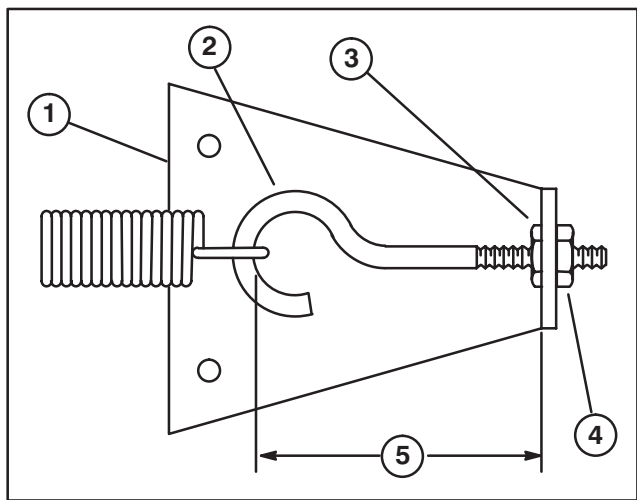

Figure 62
ADJUSTING TRACTION LINKAGE (Fig. 62)
4. Rotate, clockwise, until distance between inside of eye bolt loop and inside of spring anchor plate is shortened 1/8", as shown in Figure 62. Tighten hex nut.